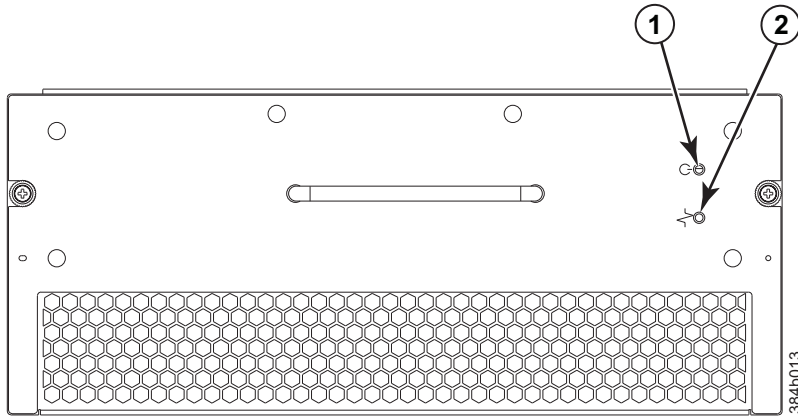

Figure 31. Blower assembly LEDs
1. Check the LED indicators on the blower assembly (see Figure 31 on page 60). The LED patterns may temporarily change during POST and other diagnostic tests; for information about how to interpret the LED patterns, see Table 13 on page 60.
Figure 31 on page 60 displays the blower assembly.